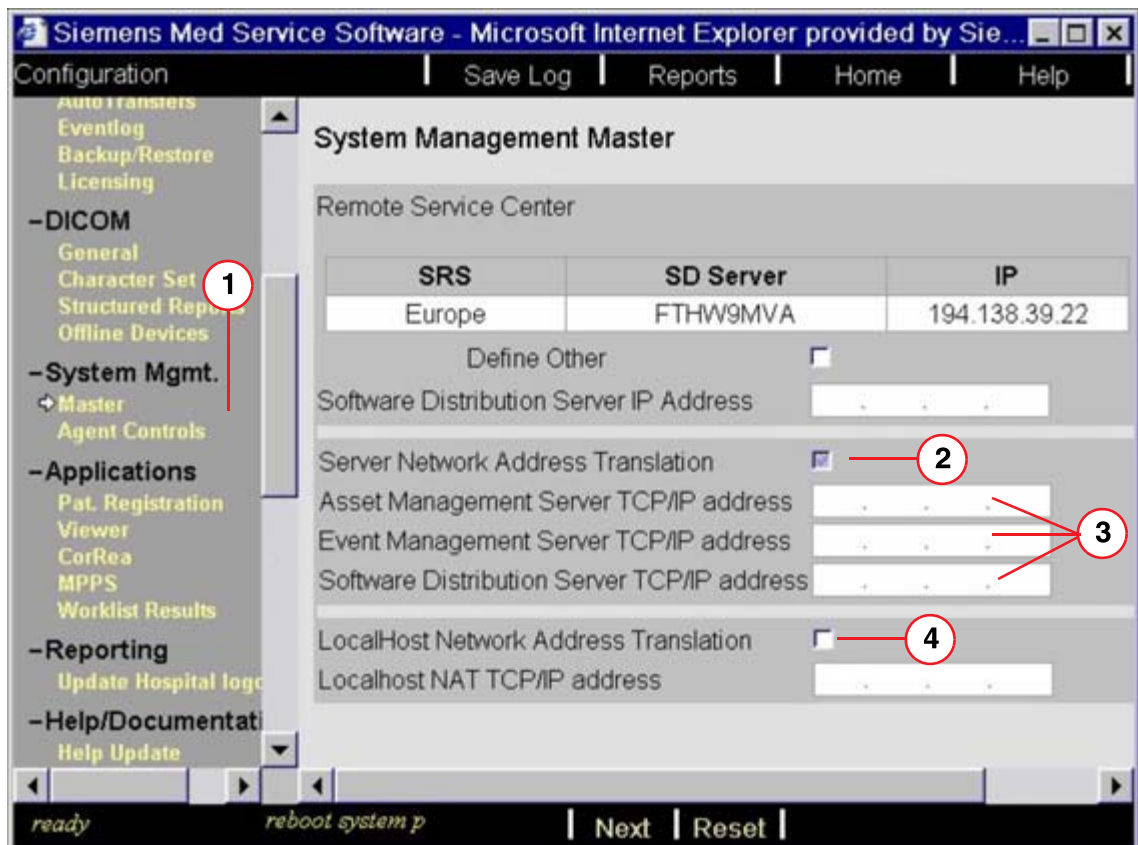

Fig. 30: SRS master page with Outside NAT option activated
- Item (2/ Fig. 30 / p. 53) now shows the automatically activated option "Server Network Address Translation".
- Depending on the zone "Remote Service Center" in which the system is located, the IP addresses in (3/ Fig. 30 / p. 53) for the:
- The checkbox (4/ Fig. 30 / p. 53) must be **deselected** (the inside NAT option will not be used in this scenario).